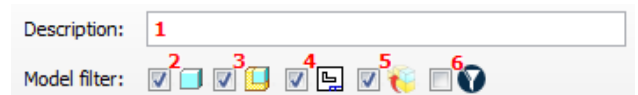

Figure 2 – Filters
If the checkbox of the extended filter (Figure 2 – Filters (6)) is active, the extended filter is used for the decision about the execution of the action. The standard filters are continued to be evaluated. An extended filter can be set globally, or per action that is to be carried out. Clicking on the filter icon opens a menu that permits filters to be added.